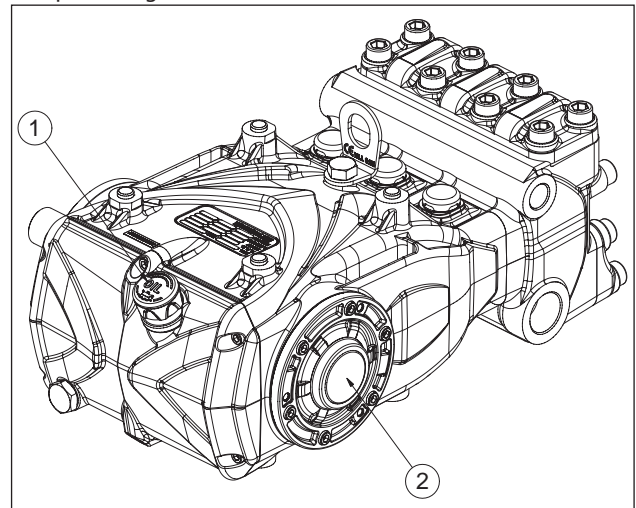

Fig. 13
- Oil in the pump casing is at level, verified with a dipstick (pos. ① Fig. 13) and exceptionally with a level indicator (pos. ② Fig. 13).